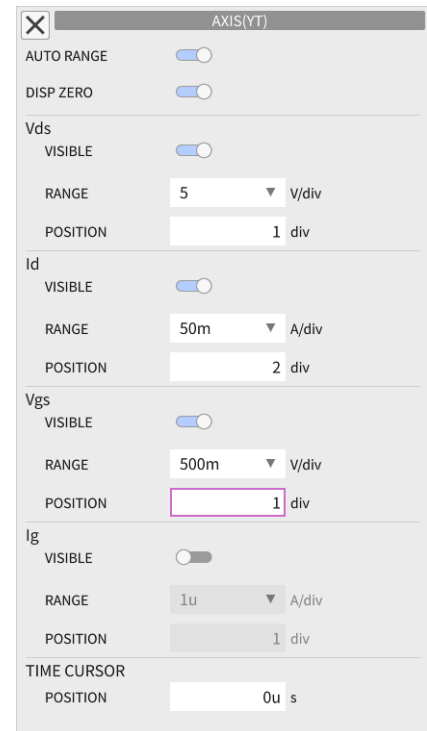

Figure 3.29: AXIS (YT) detailed setting screen
The MULTI TRACE switch is OFF in this example and is a single trace setting. When turned on, the multi-trace screen shown in Figure 3.29 appears, and the XY display section also enters a mode in which up to 5 traces can be displayed on the graph sheet. Figure 3.29 will be discussed later.
3.4.6 Detailed Settings in the AXIS (YT) Menu
Figure 3.29 shows the AXIS (YT) detailed setting screen.